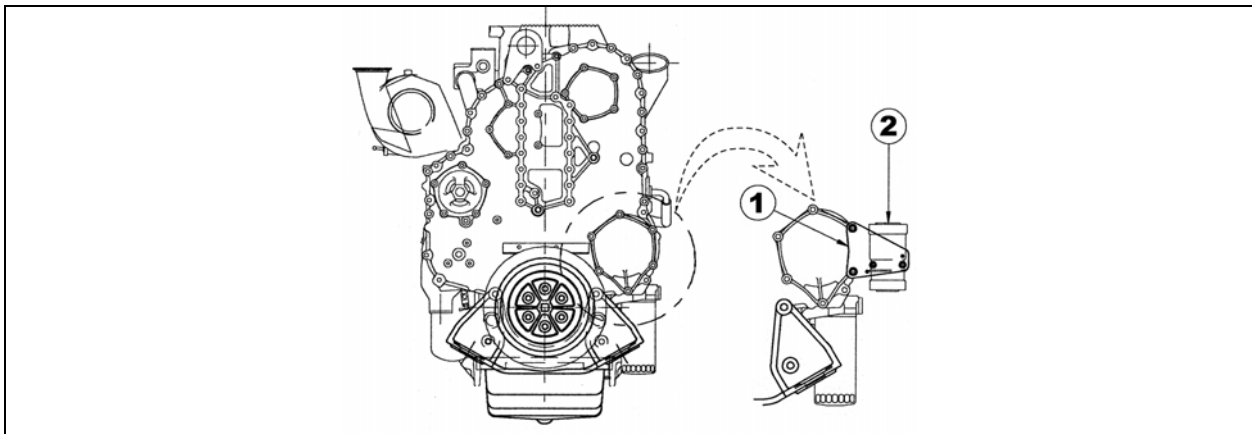

FIGURE 5: FUEL PUMP BRACKET (1), ELECTRICAL FUEL PUMP (2)
1. Install alternator mounting bracket (1, figure 5) to the gear case. Use the four flanged phosphor alloy bolts on the pulley end of the bracket and the flanged nuts at the transmission end of the bracket;